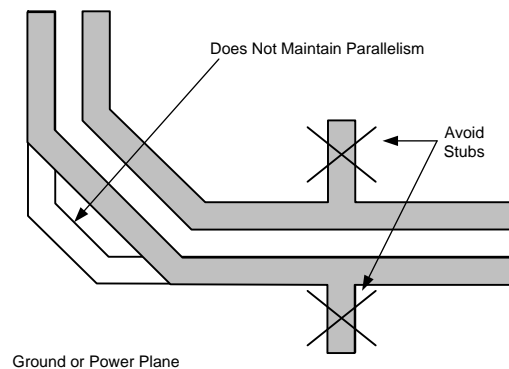
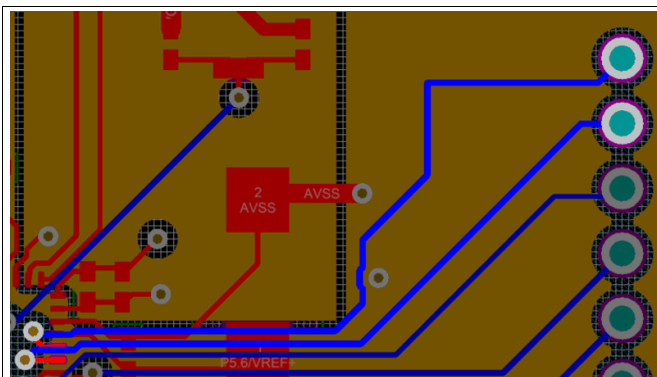
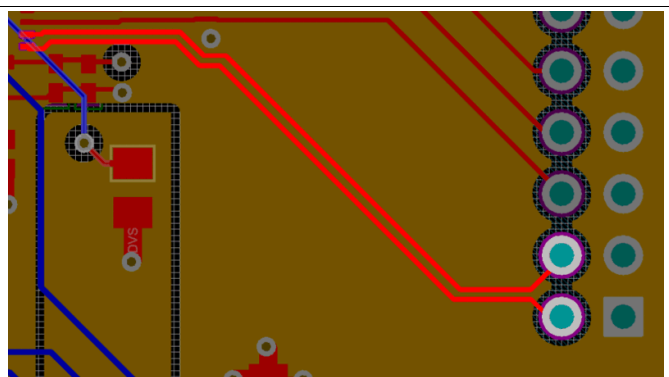

Figure 12. Differential Signal Pair
Figure 13. Poor Differential Pair Routing
Figure 14. Improved Differential Pair Routing
- For each differential pair, run the traces within the pair parallel to each other and match the trace lengths. Matched lengths minimize propagation delay differences and avoid an increase in common-mode noise and increased EMI (see Figure 12). Figure 13 shows a poor example of routing differential traces with issues including 90° corners and poor parallelism. This configuration leads to an increase in noise and causes undesired results. Figure 14 shows the correct way to route, making sure the two traces are as close as possible and matched in length.